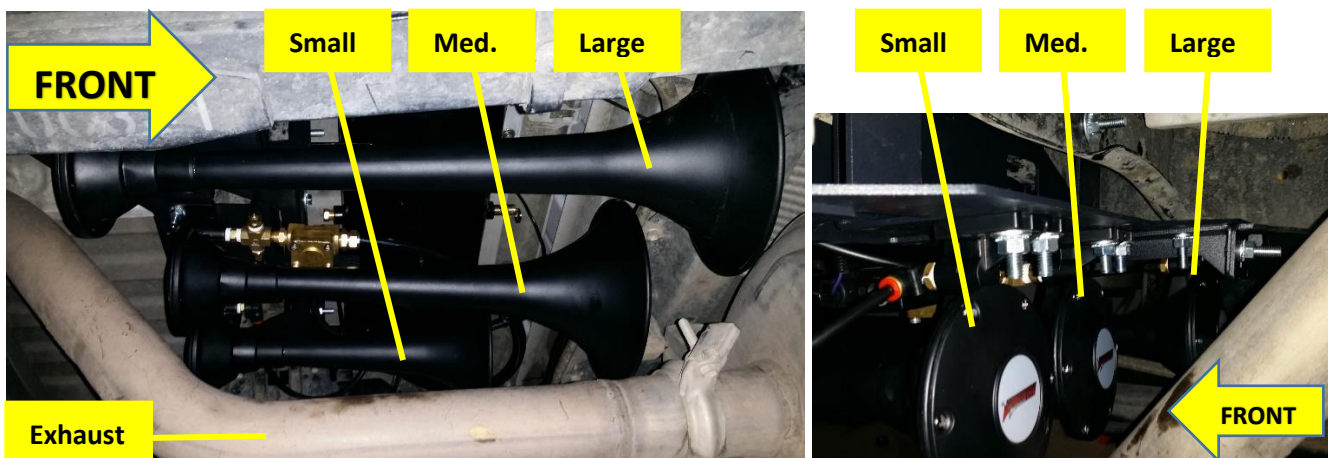

Figure 23 – Air Horn Drivers Final Install (730 Shown)
- 10.7.4. Re-attach Trumpets to Air Horn Drivers, in orientation shown in Figure 23 below. Tighten snugly using both hands to twist along bell end.